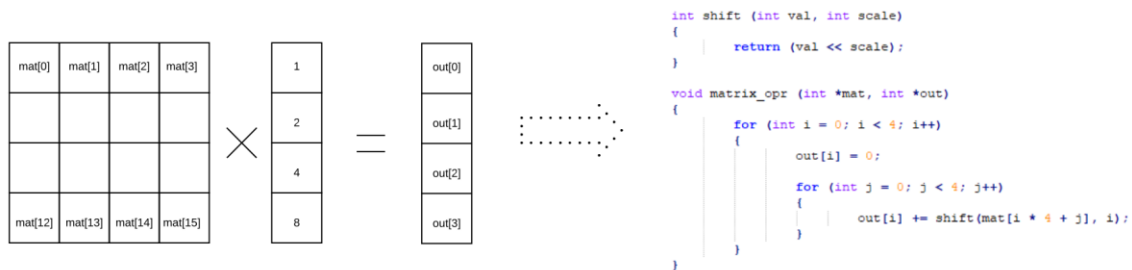

Figure 6 C to RISC-V Assembly Translation
Figure 6 shows a special matrix operation written in C. Please translate it into RISC-V assembly language. Please pay attention that (1) our assembler doesn't resolve any symbols, so when you write something like `jal x1, shift` or `bne x5, x7, exit`, **please use the absolute address or relative address instead**; (2) there is always a **SPACE** after the comma.